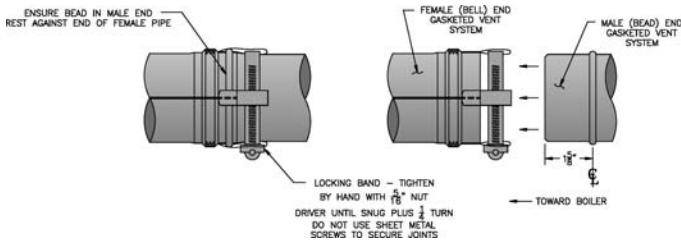

Figure 10B: Burnham Gasketed Vent Joint Detail
In the event a gasketed vent component and a gasket-less vent component must be interconnected, follow the instructions associated with Figure 10B or 10C. The two guiding principles of these instructions are as follows:
- Procedure for Joining Burnham Gasketed Vent Pipe and Fittings. See Figure 10B.